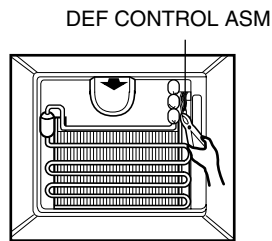

Figure 14
2. Separate the connectors connected with the Def Control ASM and replace the Def Control ASM after cutting the Tie Wrap. (Figure 14)